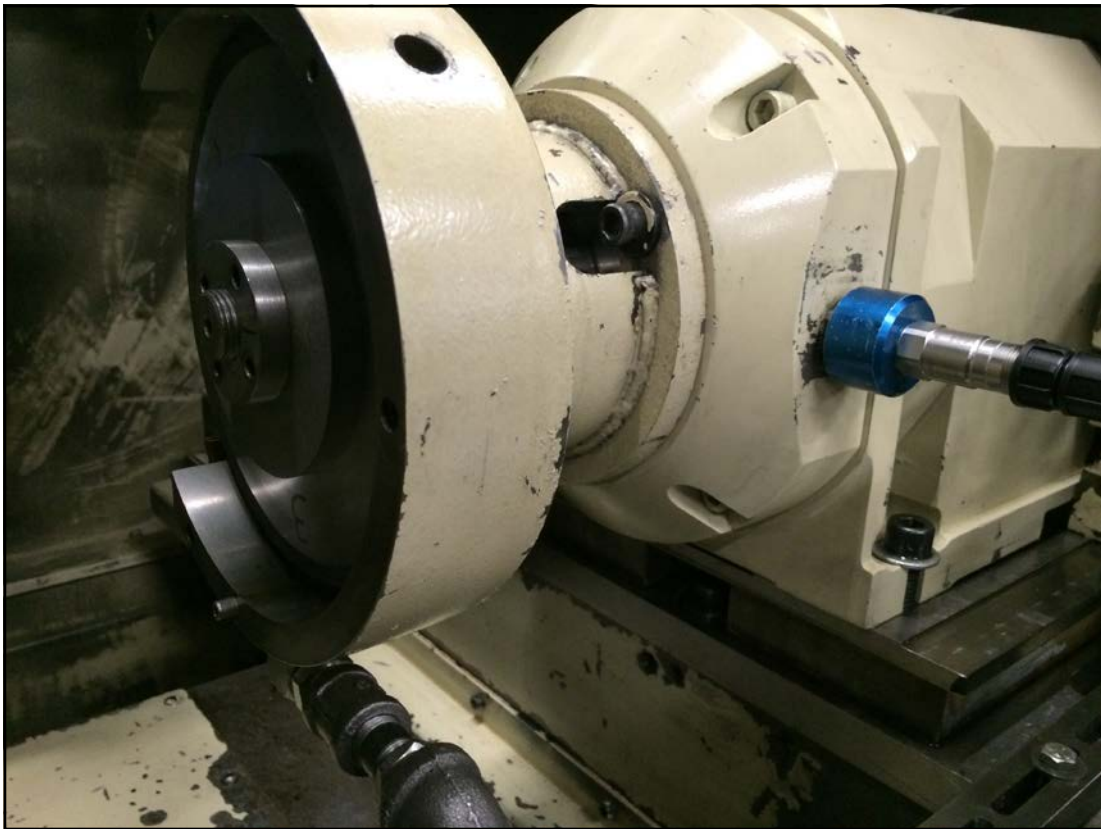

Figure 5 Machine spindle.
at the different operating speeds. The vibration analysis (VA) equipment shown in Figure 4 was used to measure the vibration amplitude at nine different operating speeds between 5,400 rpm and 7,453 rpm. The accelerometer was placed horizontally on the spindle as shown in Figure 5. The results showed that the vibration amplitude (Displacement Mils PK-PK) increased sub-
using the same vibration analysis equipment. The accelerometer was mounted as shown in Figure 5. The spindle was then lightly tapped with a plastic hammer creating the shock force required to excite the natural frequency. The results of this test are shown in Figure 8. The large peak at 6,250 cpm (104Hz) verifies that there is a natural frequency was causing the chatter issue.